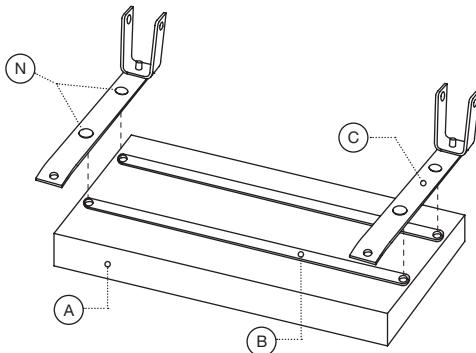

Figure 1 – Seat Cushion Assembly
1. With the Seat Cushion (A) facing down, align the holes of the Crossbars (B) with the seat. Then align the holes of the Seat Supports Bars (C) and attach with four M6 x 16 Phillips Head Screws (N) (Fig. 1).